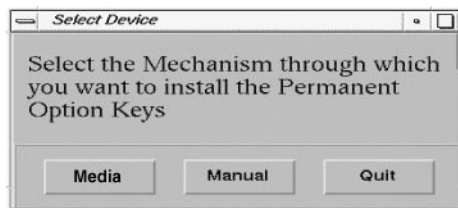

Figure 1-11 Select Device Screen
- 4.) Click on the MEDIA button (Figure 1-11) and insert the Options Key medium into the SCSI